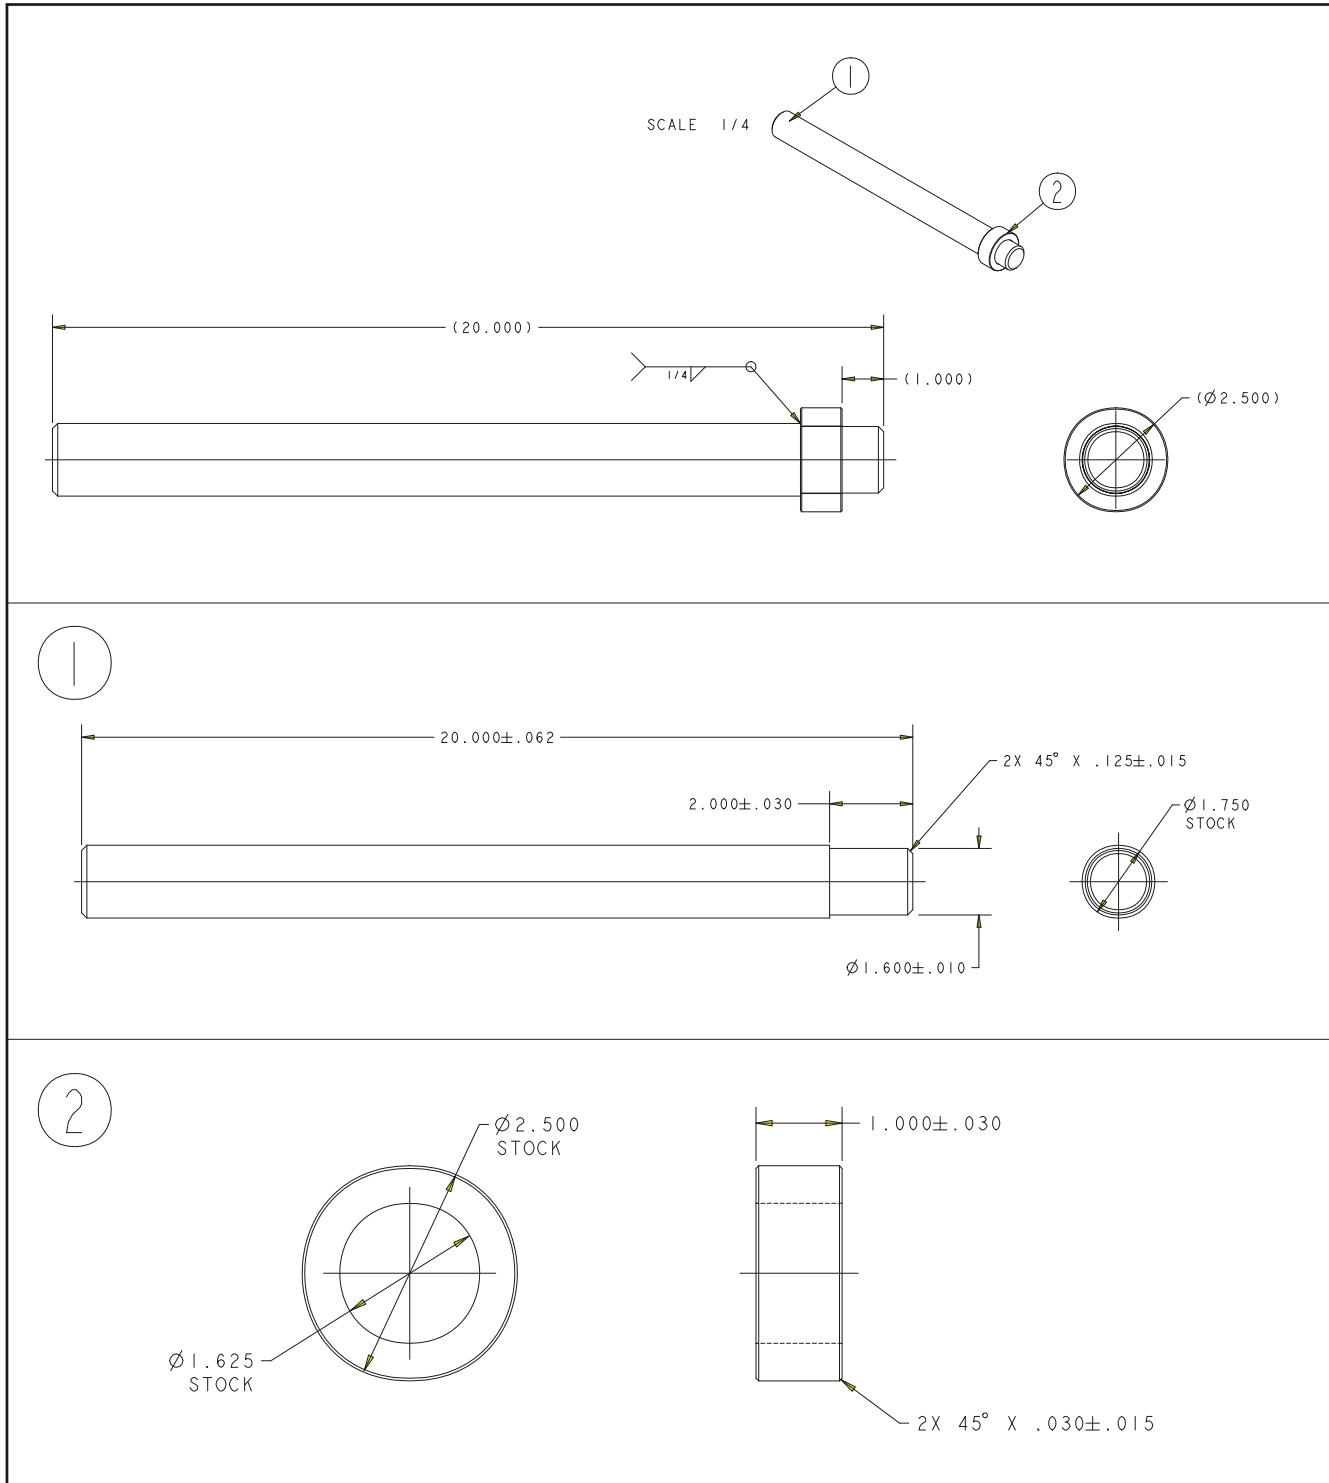

Figure 4-16. Load Pin Removal Tool, JLG P/N 4846765
6. Use the Load Pin Removal Tool (JLG P/N 4846765) to prevent the pin from being damaged, and use a hammer to remove the pin. To make the tool refer to Figure 4-16., Load Pin Removal Tool, JLG P/N 4846765. If the Load Pin Removal Tool is not available, use an arbor of the proper size (as shown below). If excessive force is necessary to move the pin, it may be necessary to carefully activate lift using the auxiliary power switch to relieve lift cylinder weight from the load sensing pin.